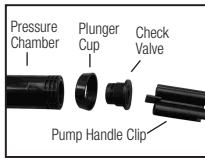

Figure 3
4) **Check Valve:** Remove check valve cartridge assembly from bottom of pressure chamber utilizing pump handle clip (clip has flat blade incorporated into end). Place flat blade into slot in bottom of cartridge and unscrew. Once cartridge has been removed it can either be replaced as an assembly or rebuilt. To rebuild disassemble two halves of cartridge and replace seal and/or ball (Figure 3 and 4). The seal mounts inside the larger of the two halves of the cartridge. The seal counterbore side mounts into the grooves in the cartridge halve. Pump performance may be affected if this is not assembled correctly.